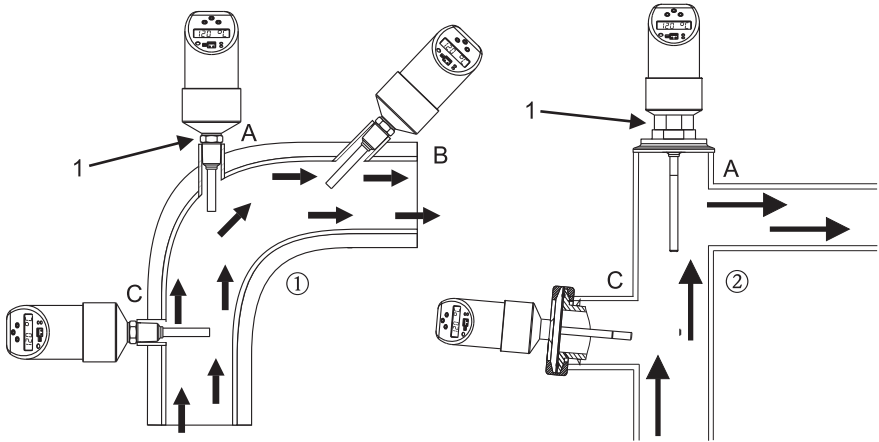

Figure 2 Typical applications of the Bulletin 837E for temperature monitoring in pipes.
- Item C: Installation vertical to the direction of flow (see Figure 2, Item C). Installation of 837E by minimum of 3° inclination because of self draining.